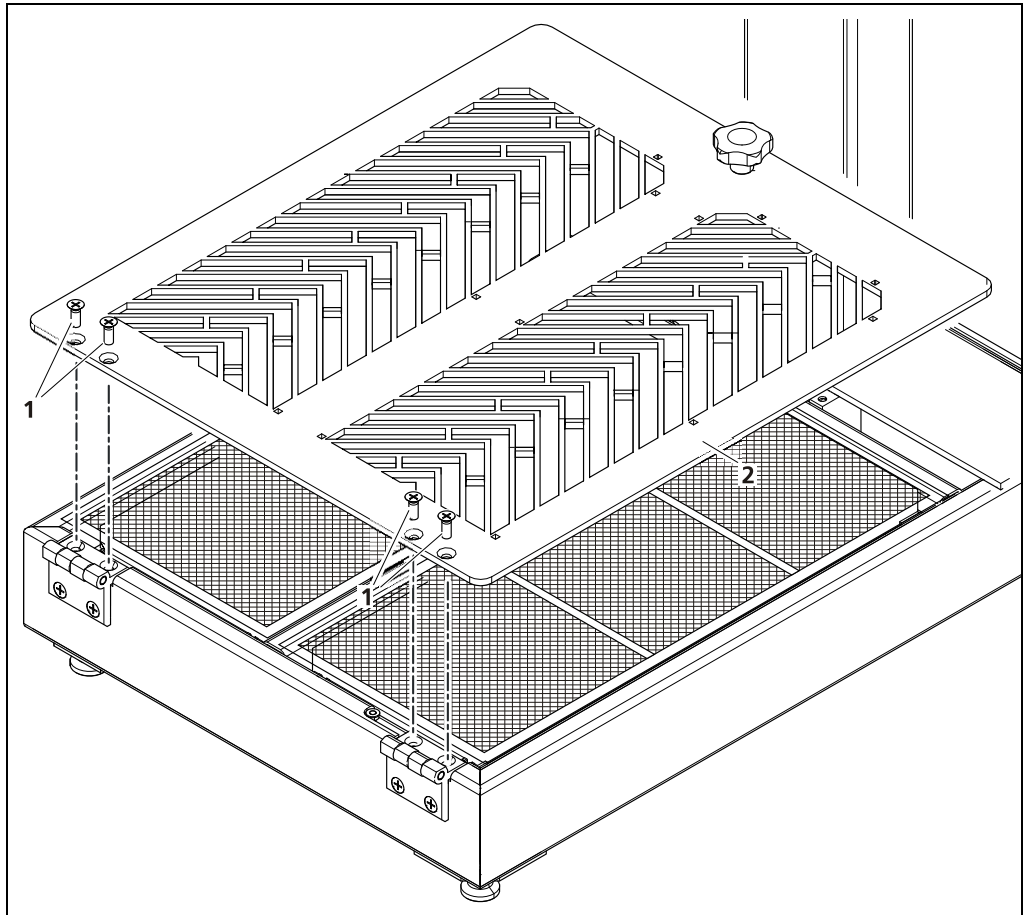

Fig. 42 Cleaning the foot
2. Unscrew the four screws (Fig. 42, item 1) at the hinges.
3. Remove the foot plate (Fig. 42, item 2) carefully.